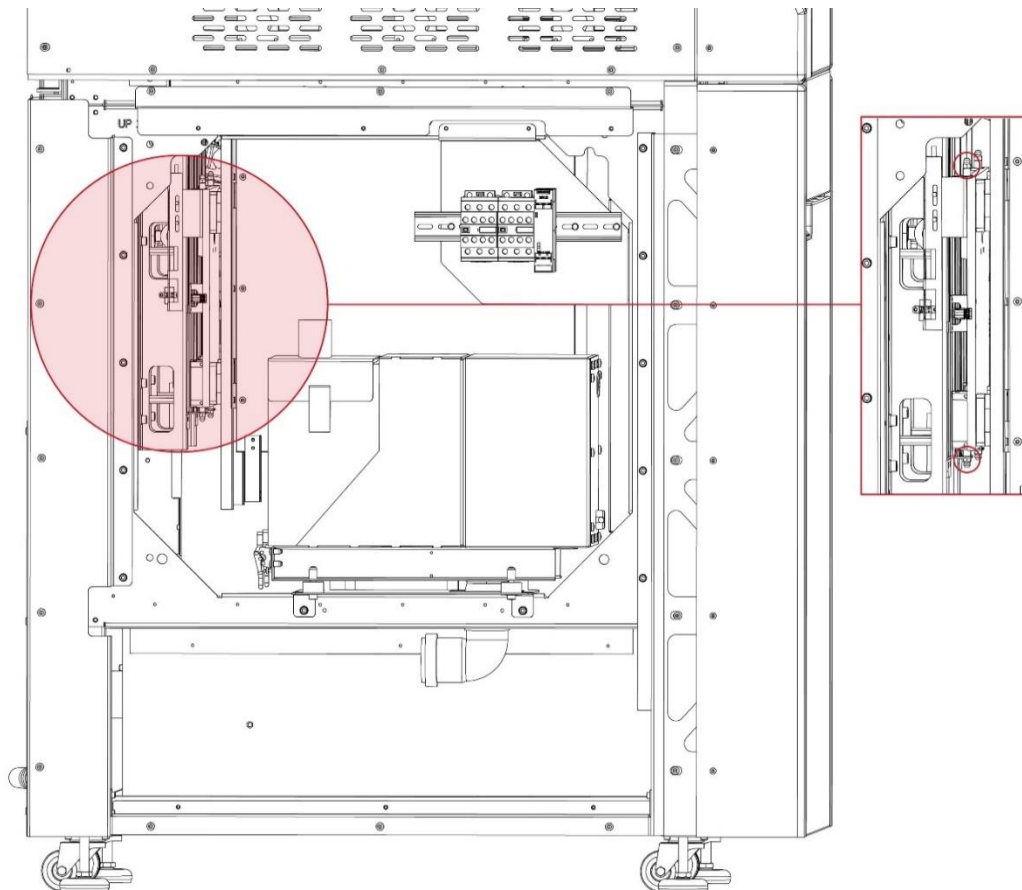

Fig. 110 Location of grease nipples - side view.
6. Locate the grease nipples as shown in Fig. 110
- facing the front of the printer, the grease nipple in the upper left carriage of the linear guide,The location of these grease nipples is shown in Fig. 110